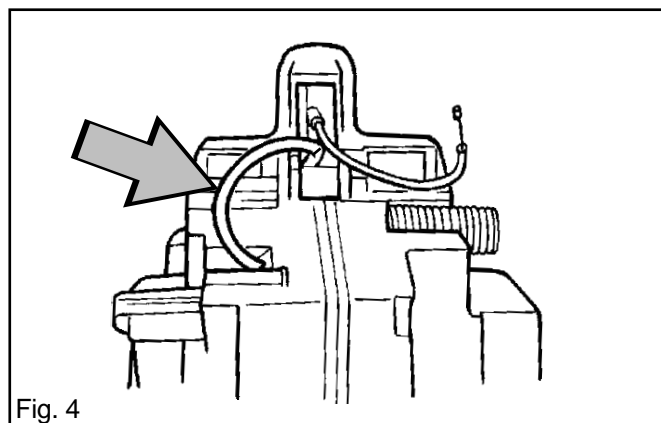

Fig. 4
- B. Thread in the oiled part through the hole in the tank unit. Allow 80-85 mm to protrude on the outside. See fig. 4.
- C. Twist the hose so that it is bent upwards. See fig. 4.